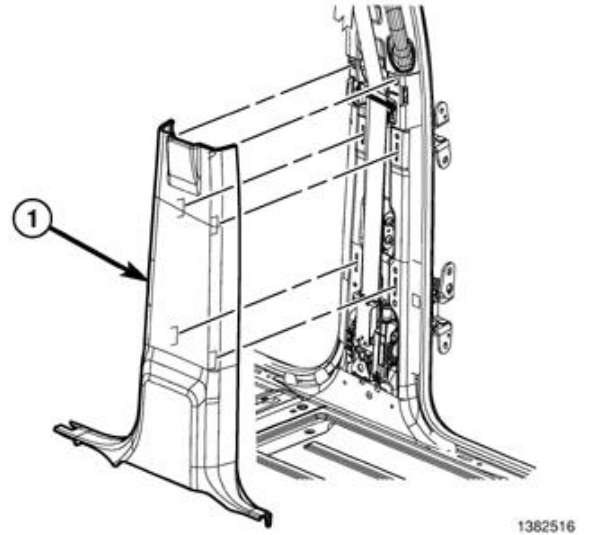

Figure 6 – B-Pillar Lower Trim Panel
11. Release the retaining clips and remove the B-pillar lower trim panel to allow for removal of the B-pillar upper trim panel (Figure 6).
50. Position the B-pillar lower trim panel and engage the retaining clips fully (Figure 6).